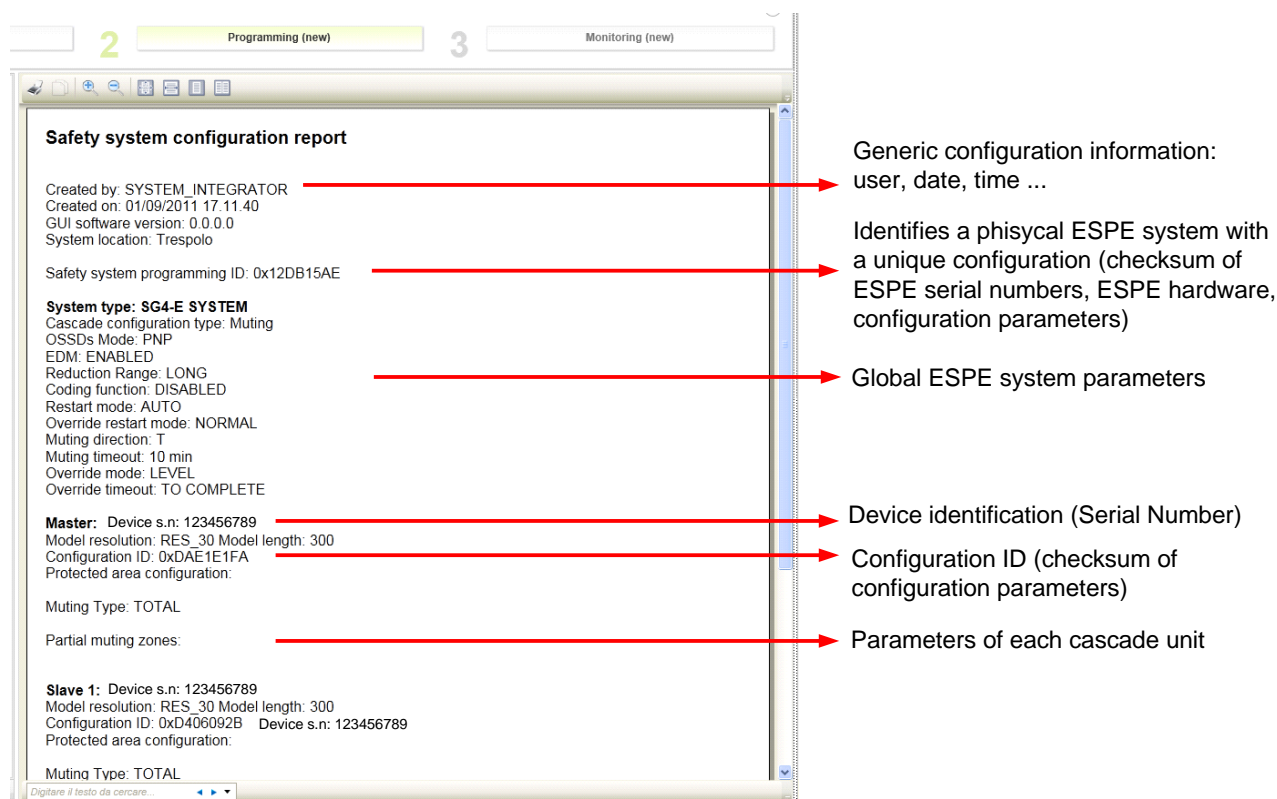

Fig. 29 – Safety report
- 3) **Report check:** ESPE sends back to UI the received configuration, UI produces a printable SAFETY REPORT with all safety related informations about configuration in progress (Fig. 29). After checking all report contents user can accept configuration: ESPE restarts in normal operation with the new configuration